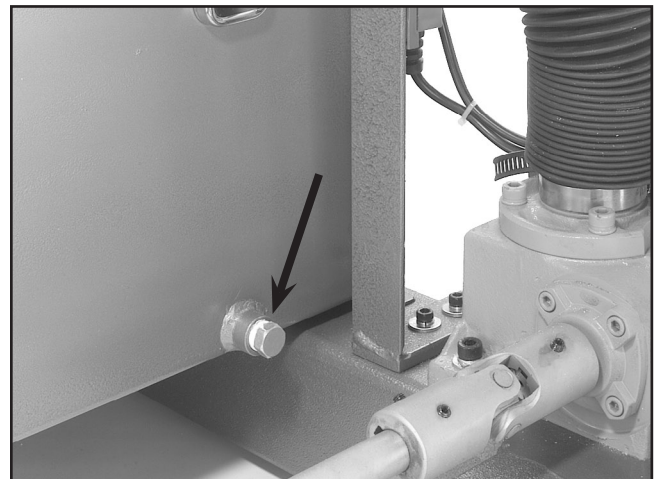

Figure 32. Drain plug for hydraulic tank.
2. Place your drain pan under the drain plug (Figure 32) and remove the drain plug.